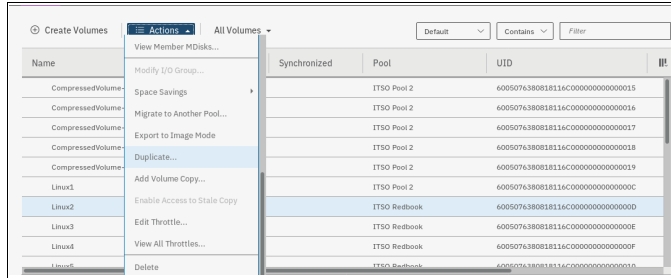

Figure 8-47 Duplicate volume option
1. Select **Duplicate** from the Actions menu (see Figure 8-47).